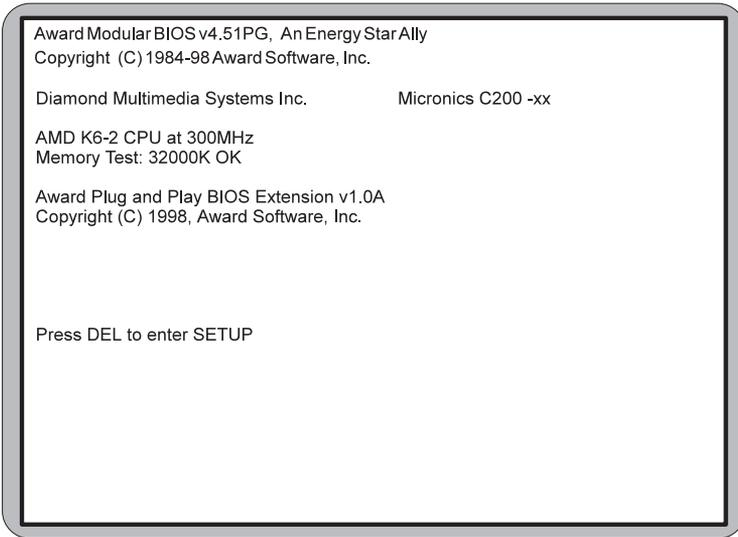

Figure 1.1: Power-Up Screen
9. Turn the computer on and press the **** key when you see the screen shown in Figure 1.1.